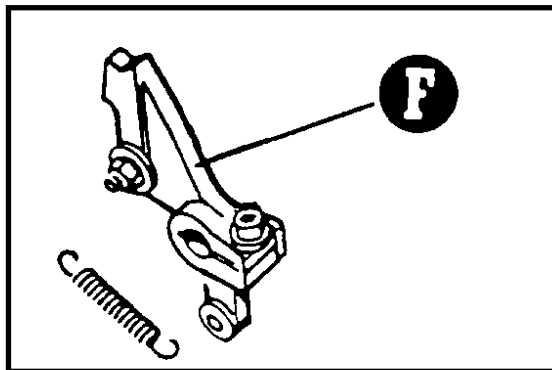

Figure 81 - Impression Cylinder Linkage
7. Remove the necessary linkage (F) to gain access to the (see Figure 81) impression cylinder support arm.